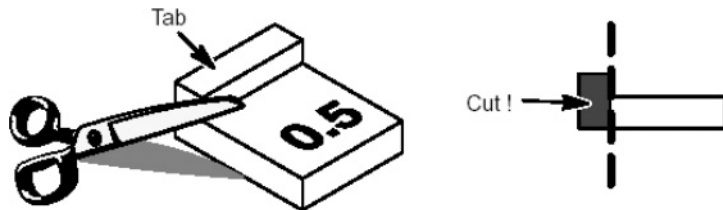

Figure 3-8 Cut the shimtab
- 6.) If the thinnest shim (0.5 mm) is too tight, cut the tab off to reduce the thickness (see Figure 3-8).